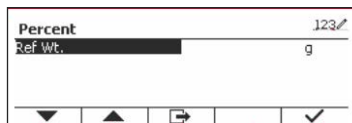

Figure 68
- Press the softkey corresponding to the  icon to enter the submenu for setting reference weight. (See Figure 68)